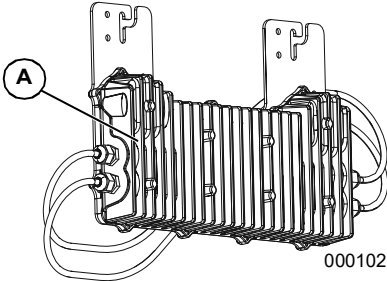

Figure 7-1. Heatsink Fins
See Figure 7-1. To ensure maximum performance, keep heatsink fins (A) free of leaves and other debris.